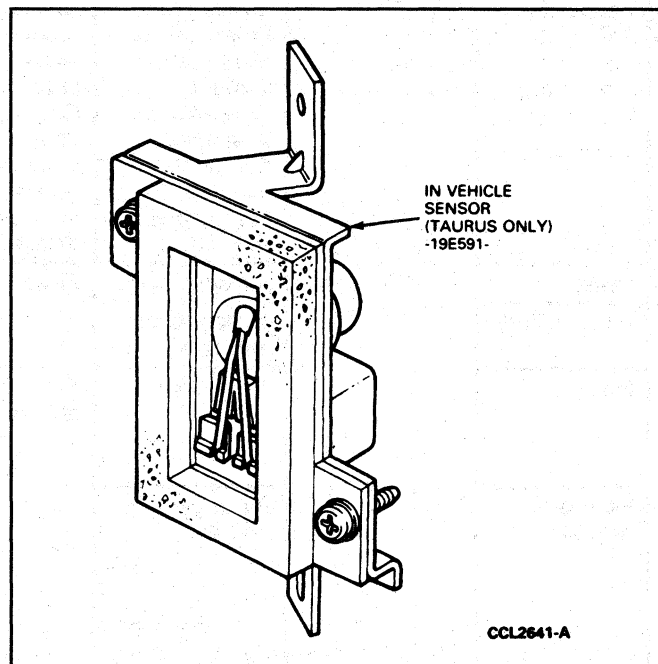

FIG. 5 In-Vehicle Sensor—Taurus
- **In-Vehicle Temperature Sensor:** located behind the instrument panel above the glove compartment, contains a thermistor which measures the temperature of the air inside the passenger compartment (Figs. 5 and 6).